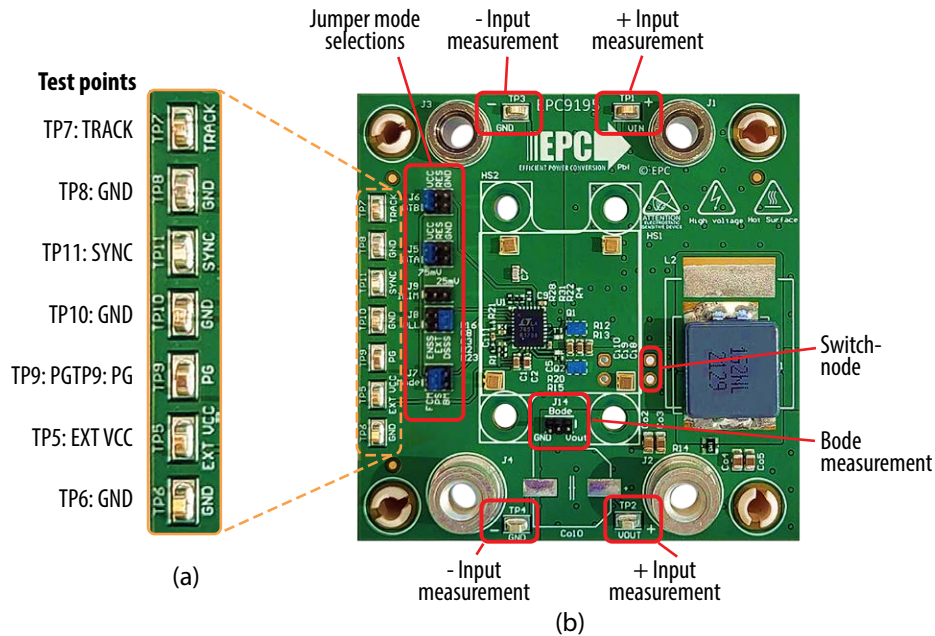

Figure 6: (a) Zoomed view of test points (b) EPC9195 test point pad and hookup locations and designations
Figure 6 shows the various measurement connections of the EPC9195 Evaluation Board.
4. With power off, connect the various measurement probes as shown in figure 6 and 7.